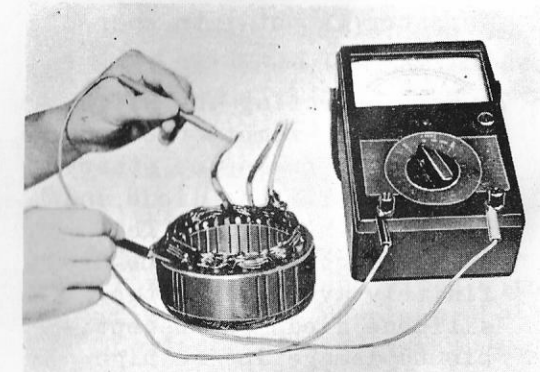

Fig. 10-132
- 6) For checking the stator coil, disconnect the circuit between the stator coil and diode and then, connect the tester between the lead of the coil and the core, if conduction takes place therebetween, the trouble may be attributed to short-circuit. (See Fig. 10-132)